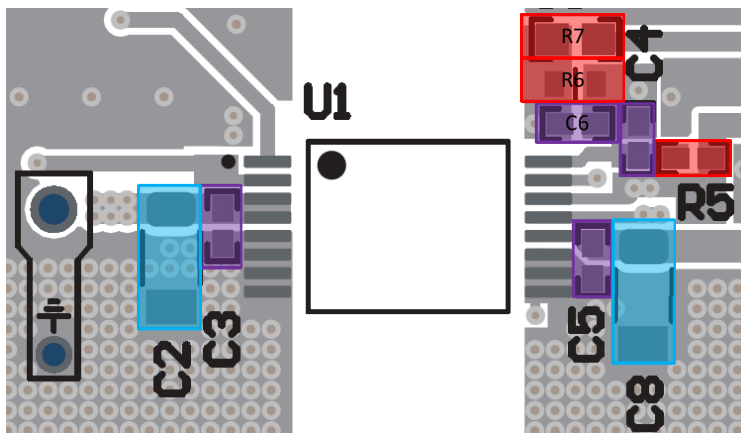

Figure 8-6. Layout Example of Components Locations
- f. A layout example is shown in Figure 8-6. Please refer to the user's guide for more details.